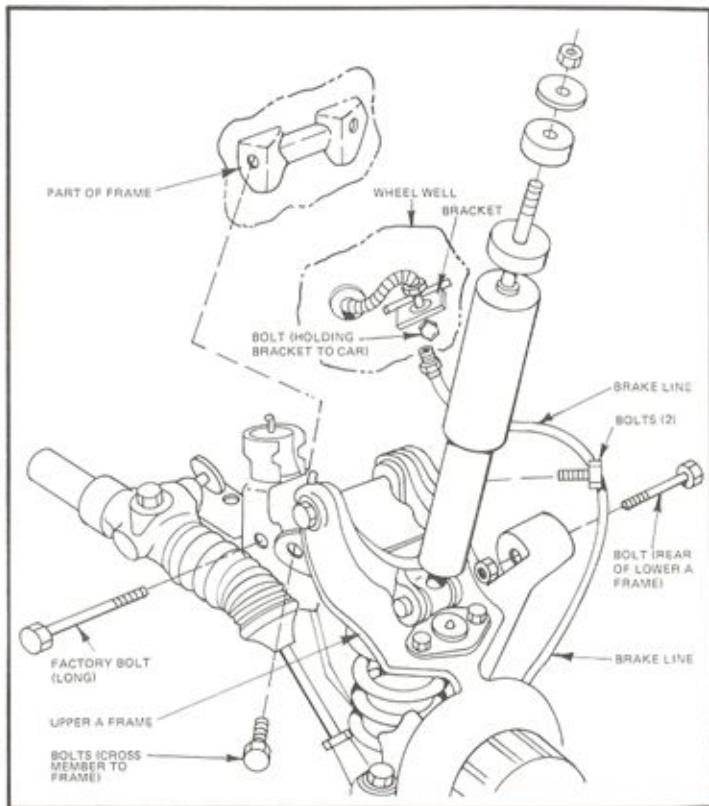

Figure 12
- Jack up front of car and secure on jack stands under frame. Remove wheels. Remove shock absorbers. (Figure 12) Disconnect brake lines under wheel wells and remove bolt holding bracket to car. Leave bracket attached to rubber hose. Remove stabilizer bar from lower "A" frame. Remove bolt from rear of lower "A" frame where it attaches to body. Place floor jack under cross member and jack up slightly. Remove two bolts located just below under side of upper "A" frames. Remove bolts holding cross member to frame. Lower jack and remove cross member.